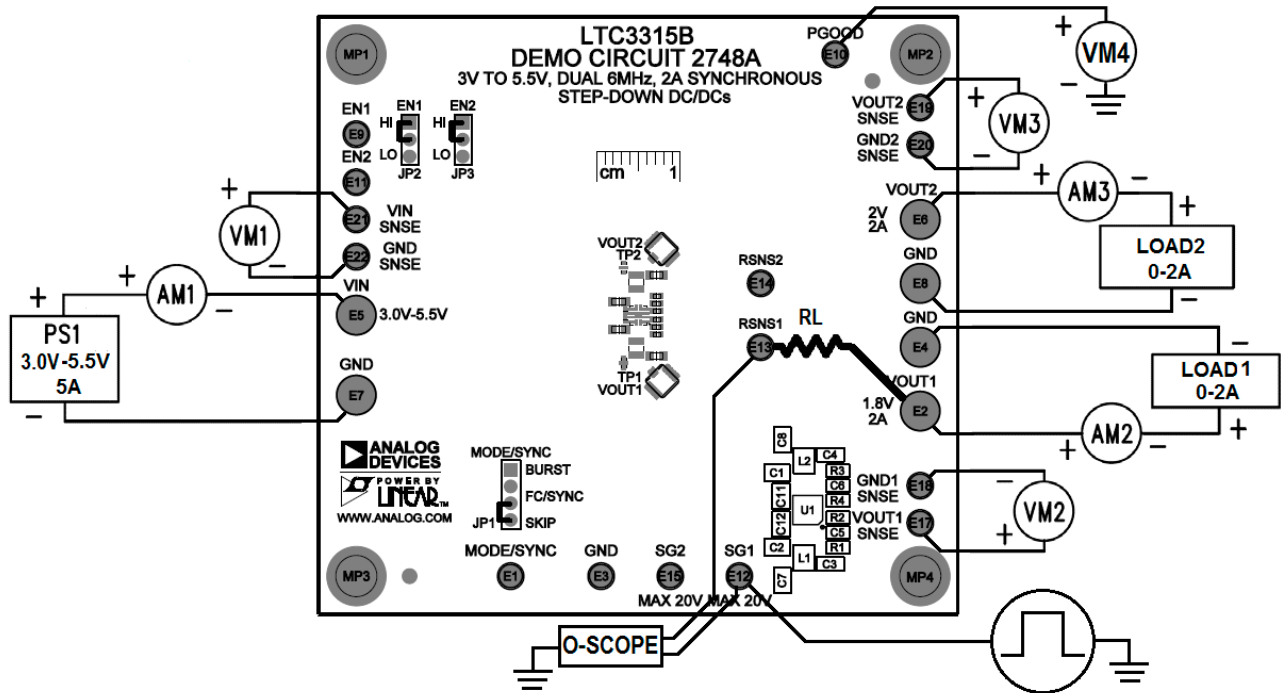
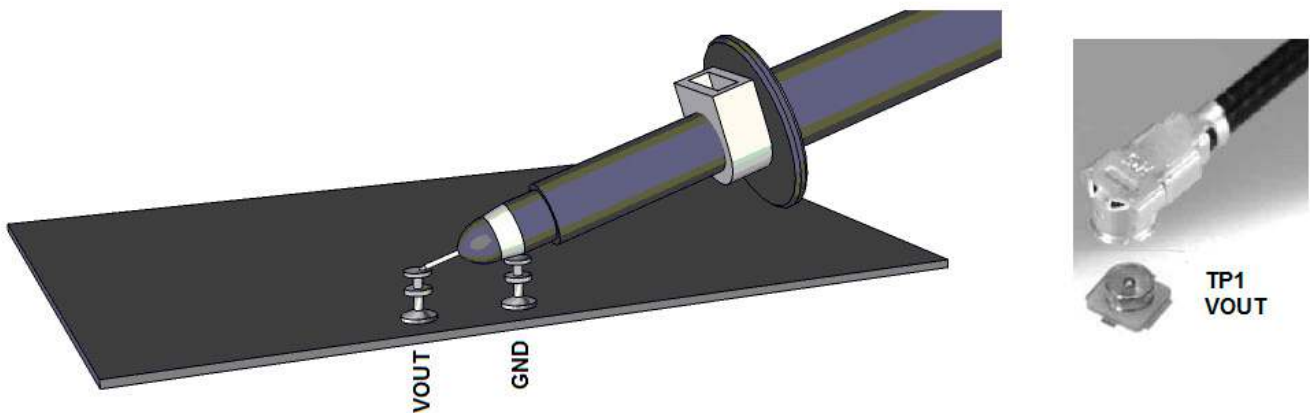

Figure 1. Proper Measurement Equipment Setup
Figure 2. Measuring Input or Output Ripple
The DC2748A is easy to set up to evaluate the performance of the LTC3315B. Refer to Figure 1 and Figure 2 for proper measurement equipment setup and follow the evaluation procedure below.
NOTE: For accurate V_{IN} , V_{OUT} and efficiency measurements, measure V_{IN} at the V_{IN} SNSE and GND SNSE turrets and V_{OUT} at the V_{OUT} SNSE and GND SNSE turrets as illustrated as VM1, VM2 and VM3 in Figure 1. When measuring the input or output voltage ripple, care must be taken to avoid a long ground lead on the oscilloscope probe.
3. With power off, connect 0V to 6V, 5A power supply, PS1, between V_{IN} and GND with a series ammeter and a voltmeter as shown in Figure 1.
5. With power off, connect a 0A to 2A load to V_{OUT1} and GND with a series ammeter and a voltmeter as shown in Figure 1.
6. Turn on LOAD1 and slowly increase from 0A to 2A and observe the output voltage. The output ripple may also be observed using an oscilloscope with the probe connected as shown in Figure 2.
NOTE: Measure the output voltage ripple by touching the probe tip directly across the output turrets or to TP1 as shown in Figure 2. TP1 is designed for a 50 Ω coax cable to reduce any high frequency noise that might couple into the oscilloscope probes.
8. With power off, connect a second 0A to 2A load to V_{OUT2} and GND with a series ammeter and a voltmeter as shown in Figure 1.
9. Turn on LOAD2 and slowly increase the from 0A to 2A and observe the output voltage. The output ripple may also be observed using an oscilloscope with the probe connected as shown in Figure 2.
15. To test the transient response with a base load, turn off LOADx (LOAD1 or LOAD2) and add the desired resistor to produce a minimum load between V_{OUTx} and RSNSx turrets (RL shown on Figure 1). Note that the total load resistance will be RL plus RSNSx (100m Ω).